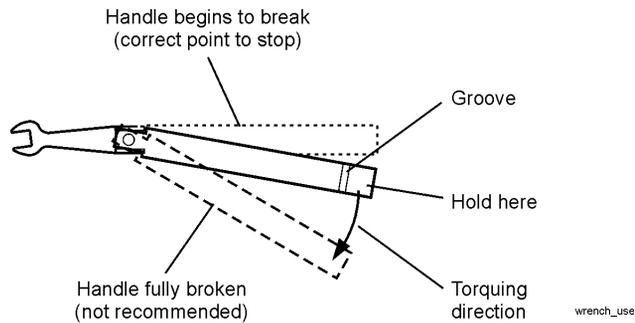

Figure 4. Using the Torque Wrench
- 5** Tighten the connection just to the torque wrench “break” point. Refer to Figure 4. Do *not* tighten the connection further.